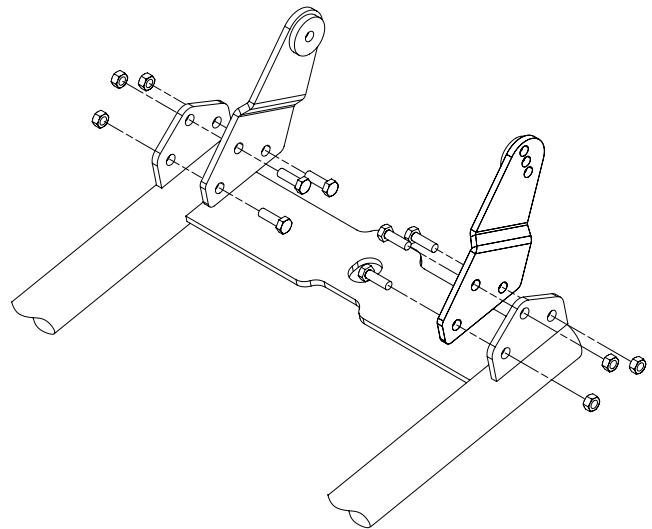

Figure 5
6. Install the plow mounting tabs (C1, C2) to plow tube assembly. Refer to Figure 5.